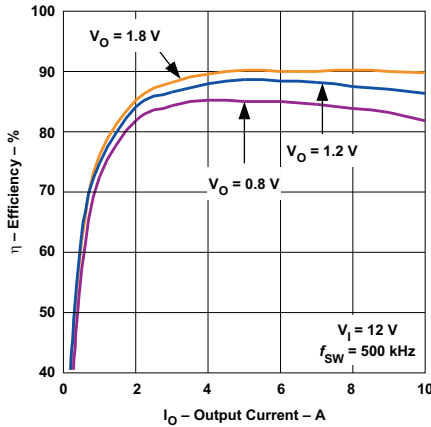
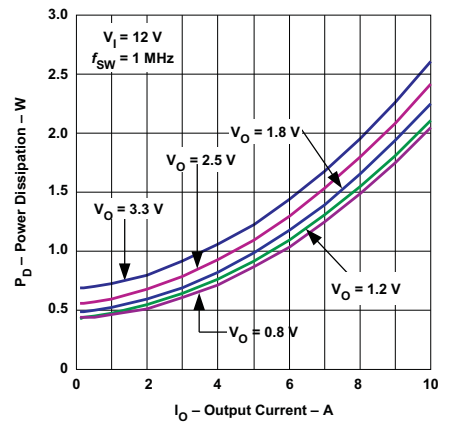

Figure 1. Efficiency
Figure 6. Power Dissipation
- (1) The electrical characteristic data (Figure 1 through Figure 6) has been developed from actual products tested at 25°C. This data is considered typical for the converter.